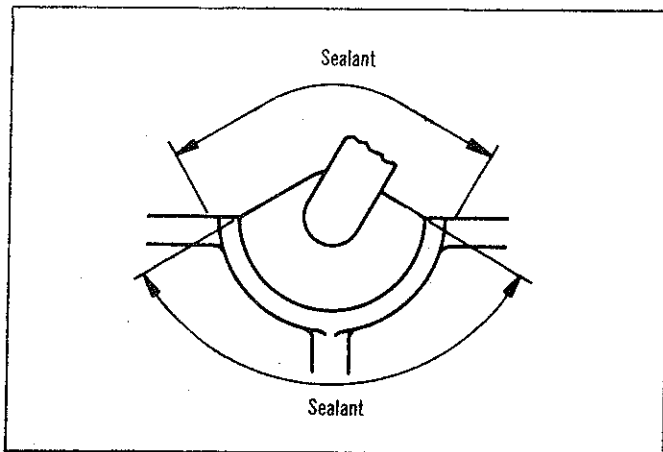

Fig. 10—Breather sealing points
(9) Install the breather and gasket to cylinder head, applying sealer to the contact surfaces—Refer Fig. 10.
(10) Install the rocker shaft cover and tighten the retaining bolts to specification.
(11) Install the intake and exhaust manifolds using new gaskets. Apply sealer to both sides of the inlet manifold around the coolant passages. Tighten the manifold nuts to the specified torque.
(12) Connect all linkages, fuel lines, vacuum hoses, breather hoses, electrical leads, radiator and heater hoses, etc.
(13) Reconnect exhaust pipe.
(14) Fill the radiator using rain water or demineralized water and adding corrosion inhibitor (or anti-freeze if required).